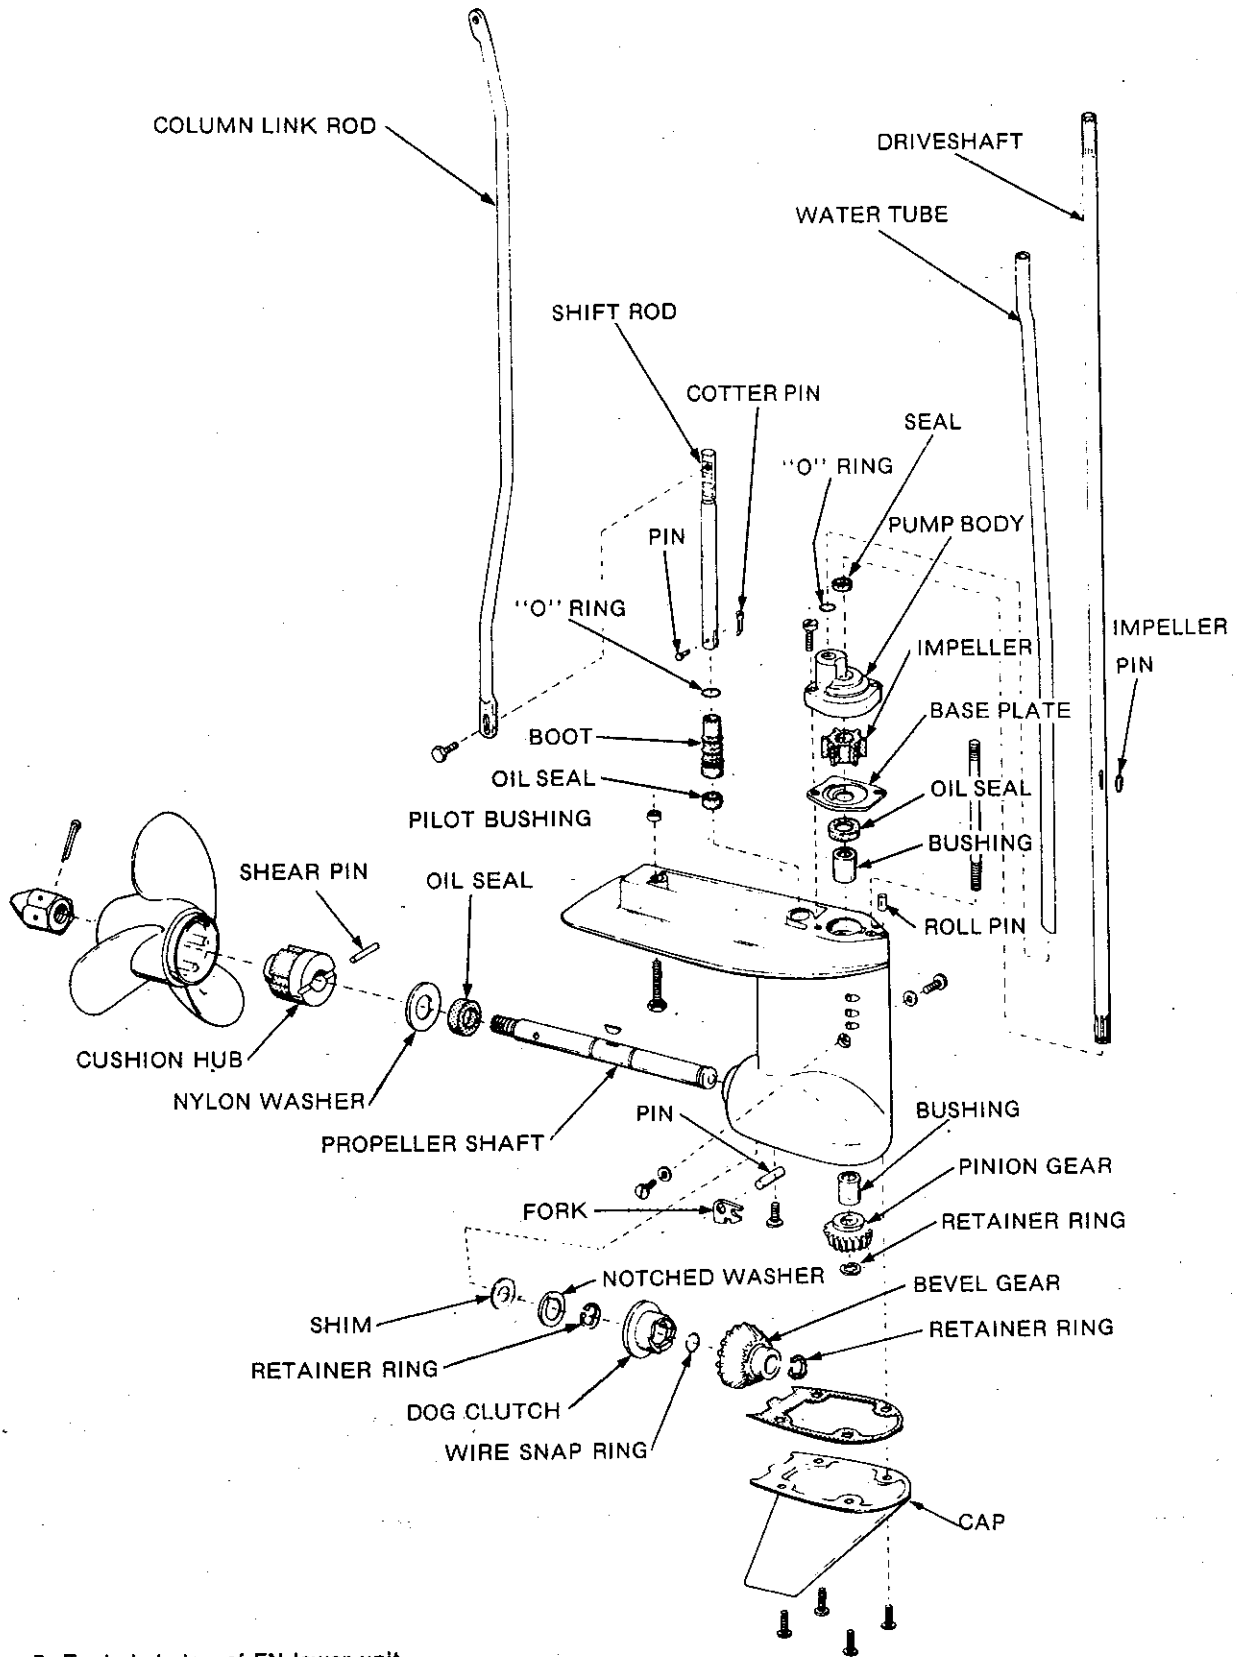

Figure 5. Exploded view of FN lower unit.
### 3. DISASSEMBLY GEAR HOUSING [Figure 5]
- G. Replace the hex-head machine screw and the column stud hex nut and medium split-lock washer (Figure 5).